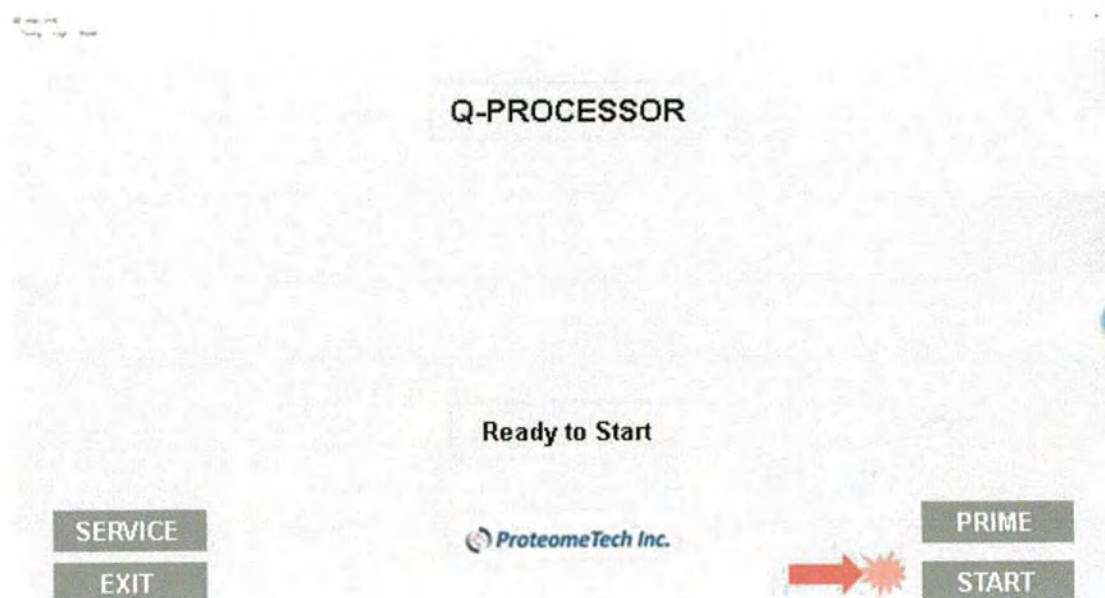
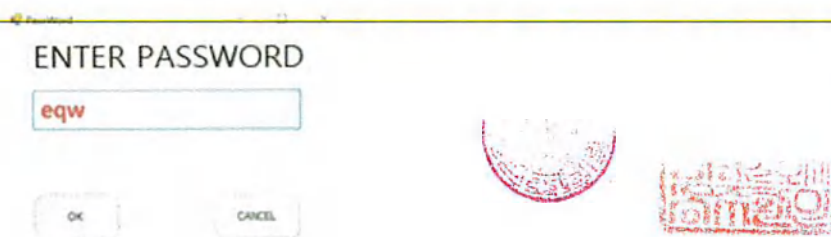

Figure 21
Figure 22
9.5.3.2 After completion of the test, all buttons will be activated [Figure 21].
9.5.3.3 Press the "SERVICE" button on [Figure 21], the "ENTER PASSWORD / ENTERPASSWORD" window will open [Figure 22].